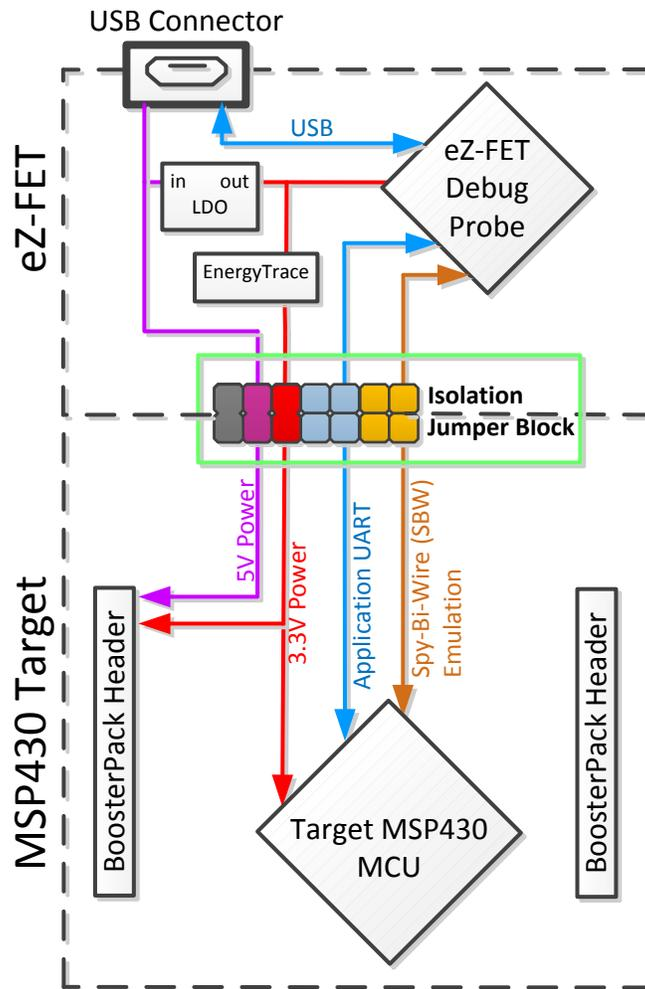

Figure 6. eZ-FET Isolation Jumper Block Diagram
(1) Also see Figure 6.
Figure 6 shows the pathway of the backchannel UART. The backchannel UART is the UART on eUSCI\_A0.